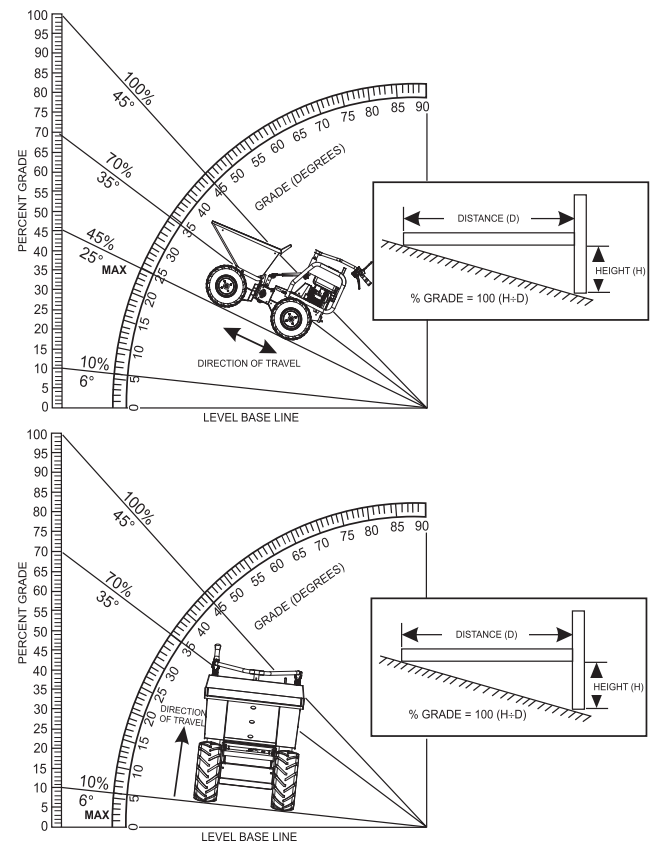

Figure 28. Determining Grade of Slope
1. When traveling on a slope, it is necessary to determine the grade of the path. The B450G/E buggies can travel up or down slopes not exceeding 25° (Figure 28) . **DO NOT** travel on steeper slopes.
To determine the % grade of your path of travel, use the formula and graph in Figure 28.